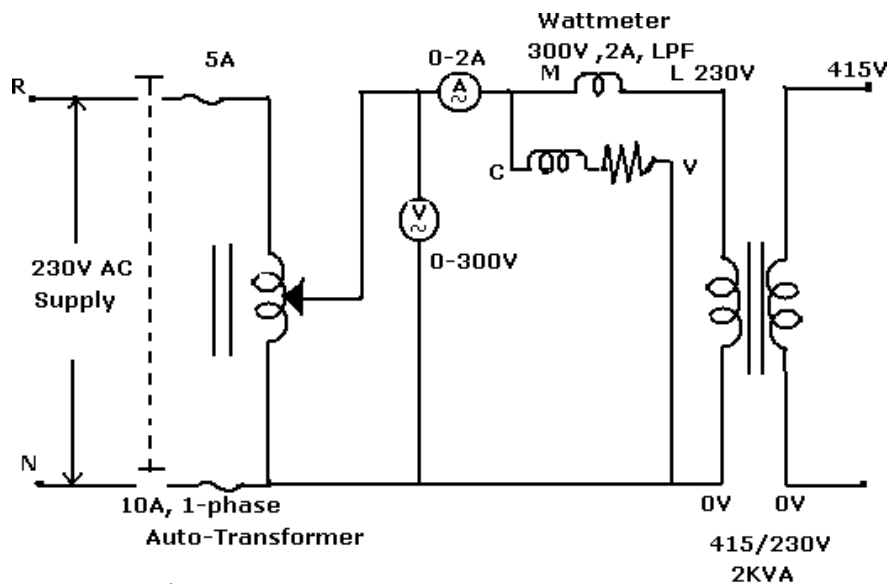

Fig.1.1: Open Circuit Test
In open circuit test, usually HV side is kept open and meters are connected on LV side as shown in the fig.1.1. When rated voltage is applied to the LV side, the ammeter reads the no-load current I_o and watt meter reads the power input. The no load current I_{NL} is 2 to 5% of full load current. Hence, the copper losses at no-load are negligible. We represent the iron or core losses. Iron losses are the sum of hysteresis and eddy current losses.
- * Connect the circuit diagram as shown in the figure 1.1